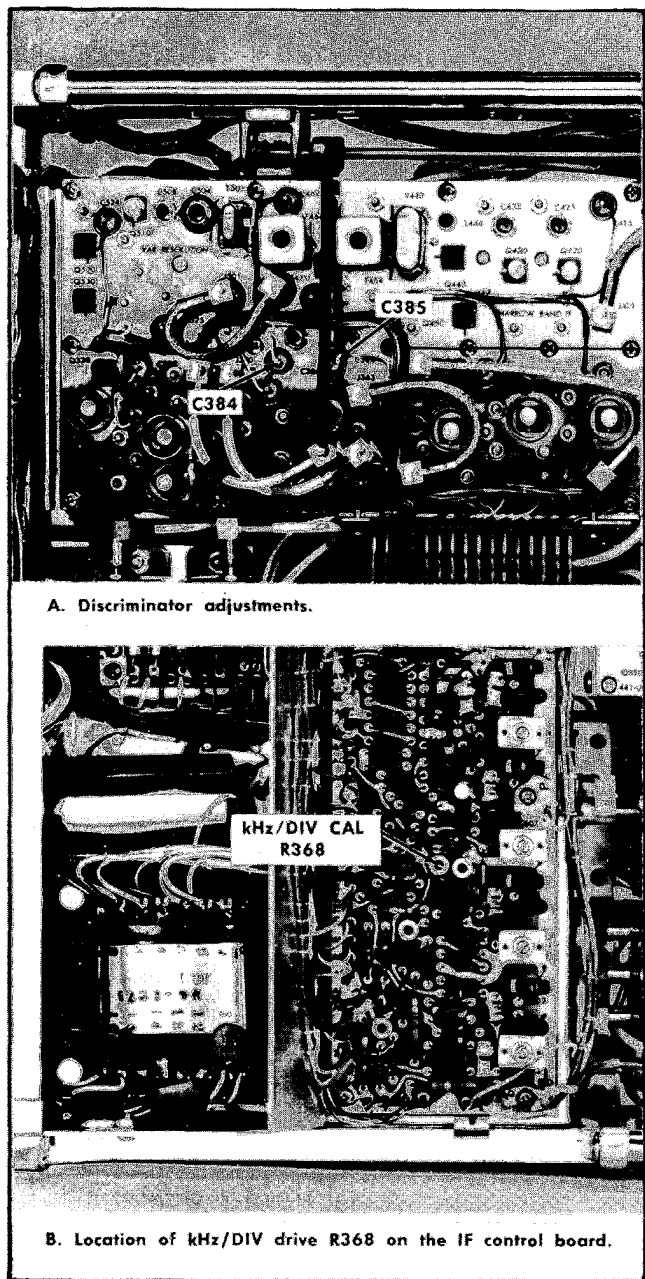

Fig. 6-30. Adjustments for the kHz/DIV discriminator.
b. Apply 10 ns and 1 μ s markers from the Time-Mark Generator through the 20 dB attenuator to the band A RF INPUT. Set the DISPERSION to 500 kHz/div. Preset the DISPERSION BAL R234, to its midrange position and the kHz/div Cal R368 (Fig. 6-30) approximately 90° counterclockwise from its fully clockwise position.